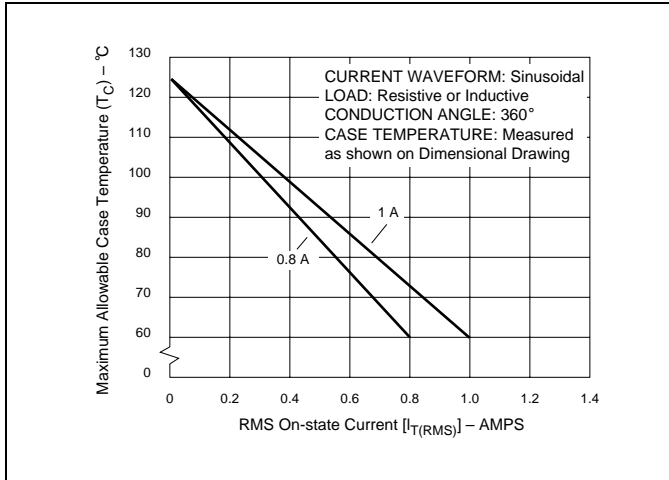
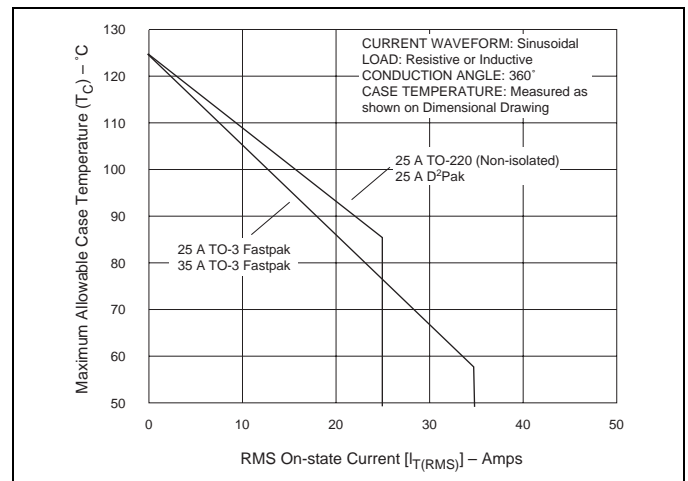
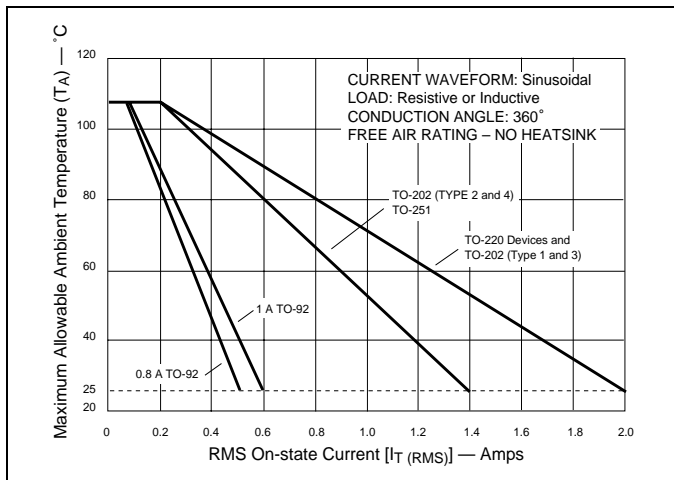

Figure E2.1 Maximum Allowable Case Temperature versus On-state Current (0.8 A and 1 A)
Figure E2.6 Maximum Allowable Case Temperature versus On-state Current (25 A and 35 A)
Figure E2.7 Maximum Allowable Ambient Temperature versus On-state Current
- See Figure E2.1 through Figure E2.7 for current rating at specific operating temperature.
- See Figure E2.1 through Figure E2.6 for maximum allowable case temperature at maximum rated current.
(18) Quadrants I, II, III only
(19) Minimum non-trigger V_{GT} at 125 °C is 0.2 V for all except 50 mA MAX QIV devices which are 0.2 V at 110 °C.